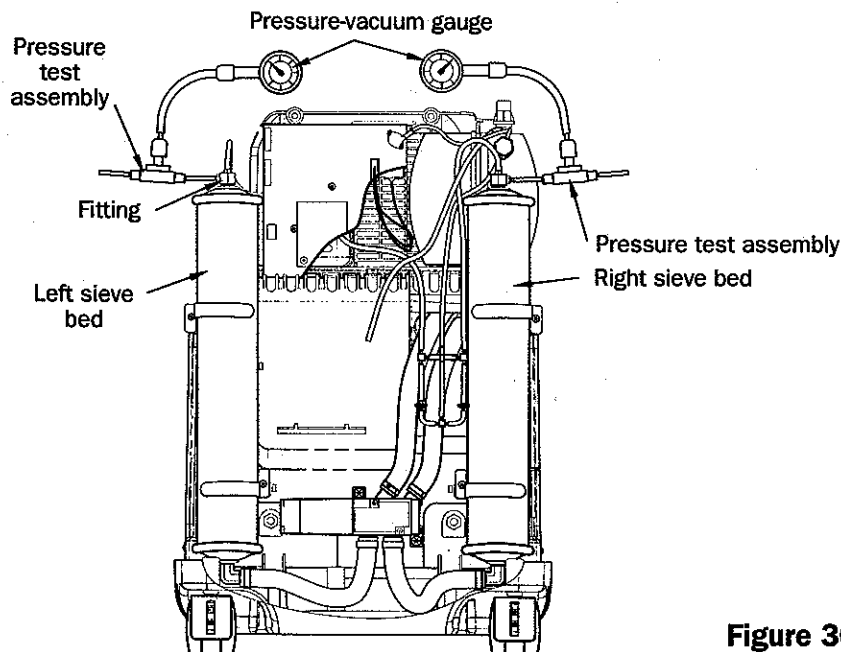

Figure 30
Sieve bed pressures can be read by attaching pressure-vacuum gauges to the test points located at the top of each sieve bed (Figure 30).
- (2) Pressure test assemblies (part #444-502)
**To test the sieve beds (Figure 30):**